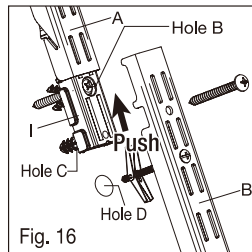

Fig. 16
- Push vertical rail joiner (I) up into upper vertical rail (A) as shown, secure the vertical rail joiner (I) on hole B with panhead screw (#12 x 2 in.) (see Fig. 16).